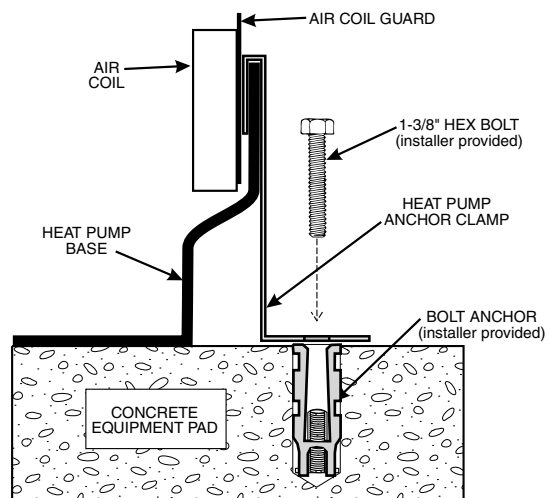

Figure 5.
4. Fit the hook of each clamp over the lip on the base panel of the heat pump. The hook should fit between the lip of the base panel and the evaporator coil guard, see Figure 5.
8. Position the anchor clamps so that the holes in the clamps are over the bolt anchors. Be sure that the clamp hooks are over the lip of the heat pump base, see **Figure 5**.